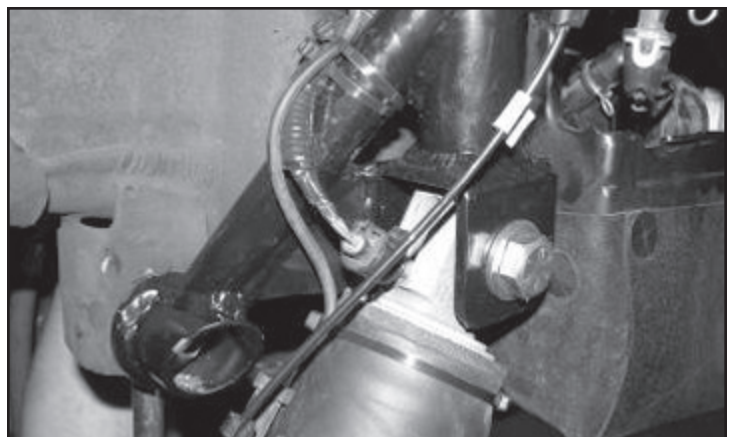

FIGURE 20 - STEP 16
16. Working from the driver's side, electrical plug. Follow the electrical plug to the plastic loom, carefully open the loom and **ONLY** remove the ABS wires from it back approximately 10 inches. Route the plug and line down to the shock and plug in. **SEE FIGURE 20**